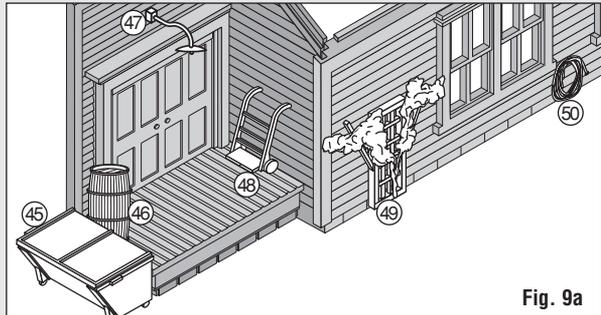

Fig. 9a
- Dumpster (45), Barrel (46), Light (47), Hand Truck (48), Trellis with Flowers (49) and Hose (50) (Fig. 9a).